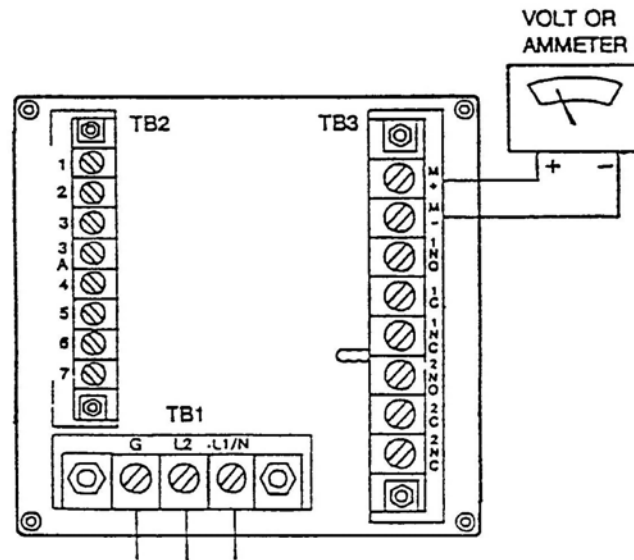

Figure 18. Output Terminals and Volt/Amp Meter (Plastic Version Shown)
1. Connect an ampmeter/voltmeter to the analog output terminals. For LCO1 and HCO1, connect to Channel 1 output terminal. For LCO2 and HCO2, connect to Channel 2 output terminals. See Figure 18 and Wiring sections.